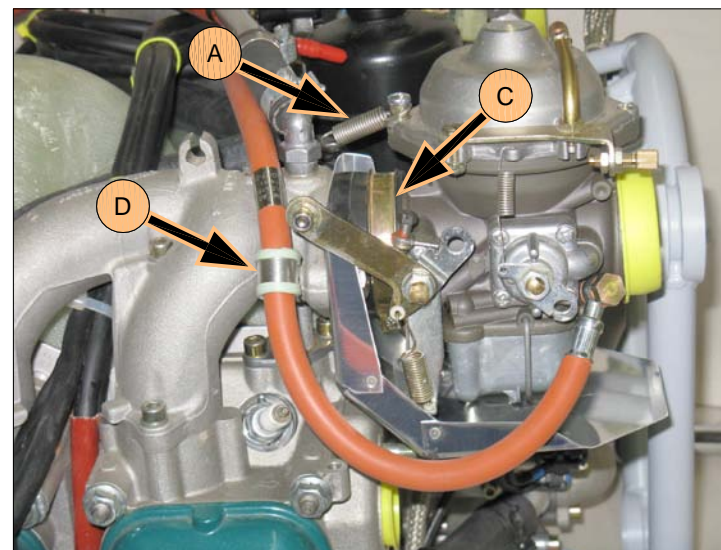

FIGURE 4: RE-INSTALL CARBURETORS
Step 4: Install the band clamp (C) onto the carburetor flange assembly. See Figure 4. The clamp lugs and screw must be placed at the bottom or 6 o'clock position. Install the carburetor free of oil or grease. Tighten the band clamp against the spacer provided by Rotax which automatically sets the proper gap (.276 in. or 7mm) between the clamp lugs to prevent over tightening.